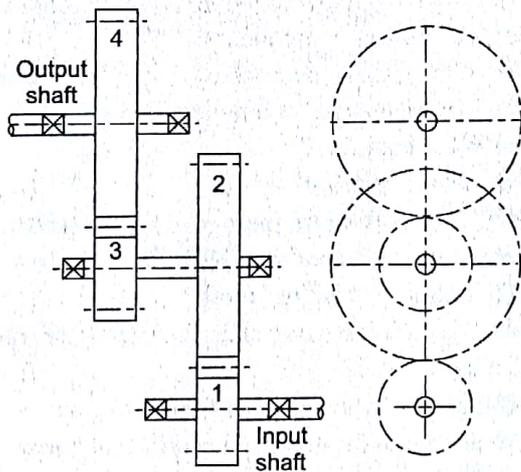

Fig. 17.47
17.4 **M** A train of spur gears is shown in Fig. 17.47. Gear 1 is the driving gear and transmits 5 kW power at 720 rpm. The number of teeth on gears 1, 2, 3 and 4 are 20, 50, 30 and 60 respectively. The module for all gears is 4 mm. The gears have a 20° full depth involute profile. Calculate the tangential and radial components of the tooth force between: